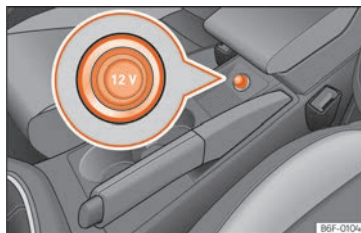

Fig. 118 Front power socket.
- Remove the plug from the socket located in the centre console »» **Fig. 118**.